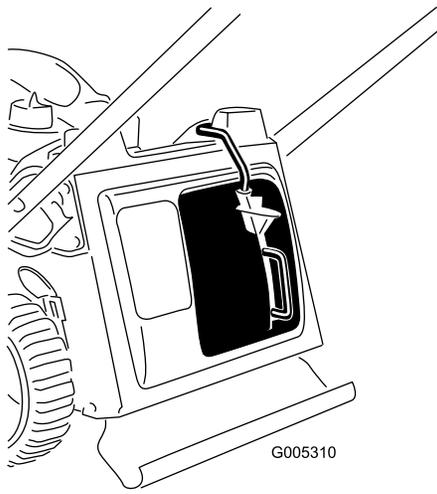

Figure 10
3. Release the button on the lever and ensure that the top of the lever is lies fully in the switch channel (Figure 10). **If the top of the lever is not in the switch channel, your machine will not start!**